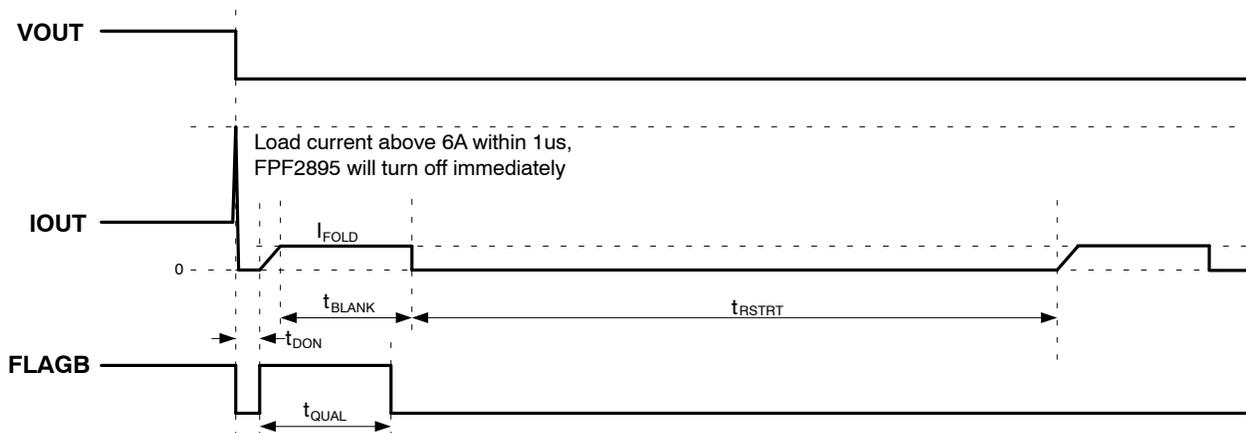

Figure 9. VOUT Hard Short to GND (OC\_MODE=HIGH & FLAGB Is Pulled Up With an External VIO)
5. 6 A absolute limit current value. See Figure 9. for protection timing diagram.